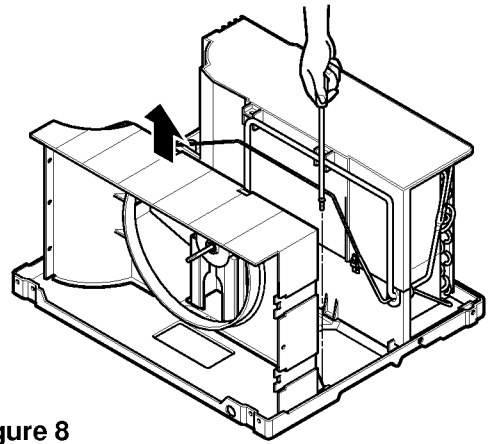

Figure 8
4. Remove the shroud. (See figure 8)